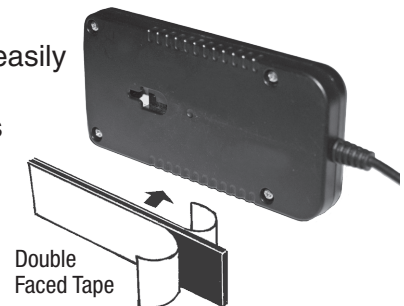

**Fig. 6**
17. The two cables will make an approximate 90° bend into the B-pillar. Depending on the vehicle, this can sometimes be difficult, but it is the recommended procedure for proper installation. Installation will vary for each make and model vehicle and it is up to the installation technician's discretion whether to route the power cable as recommend through the B-pillar or use an alternative routing method. Route the two cables down to the bottom of the B-pillar and the pull the full length of each cable into the interior of the vehicle. See Fig. 6.